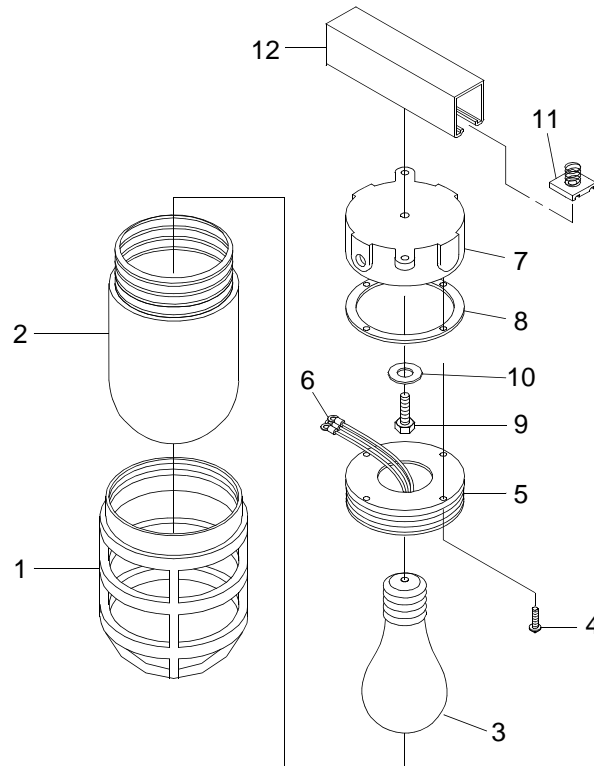

Figure 1. Incandescent Light Fixture
2. Remove guard (figure 1, item 1) and discard.
3. Remove globe (figure 1, item 2) and discard.
4. Remove lamp (figure 1, item 3) and retain if serviceable.
5. Remove screws (figure 1, item 4) from lampholder (figure 1, item 5) and allow lampholder (figure 1, item 5) to hang down from wires (figure 1, item 6).
6. Label and disconnect wiring (figure 1, item 6) from fixture base (figure 1, item 7).
7. Remove lampholder (figure 1, item 5) and gasket (figure 1, item 8) and discard.
8. Remove hex head bolt (figure 1, item 9) and washer (figure 1, item 10) securing fixture base (figure 1, item 7) to clamping nut (figure 1, item 11) in track (figure 1, item 12). Discard fixture base (figure 1, item 7).
9. Position fixture base (figure 1, item 7) under track (figure 1, item 12) and clamping nut (figure 1, item 11).